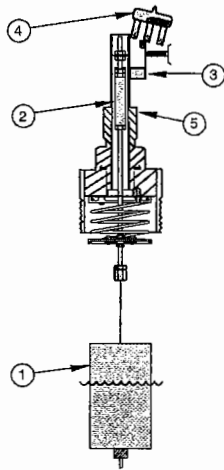

Figure 1
A spring is loaded with a weighted displacer ① which is heavier than the liquid. Immersion of the displacers caused by rising liquid level imparts buoyancy forces on the displacer allowing the spring to compress. The attraction sleeve ② attached to the spring, moves upward into the field of a permanent magnet ③. The movement of the magnet toward the sleeve causes the switch ④ to actuate. A non-magnetic barrier tube ⑤ provides a static pressure boundary between the switch mechanism and the displacer assembly. As the liquid level falls, the displacer lowers, causing the spring to extend, and moving the attraction sleeve out of the magnetic field of the switch mechanism. This allows the switch to again change position and to break or make. See Figures 1 and 2.